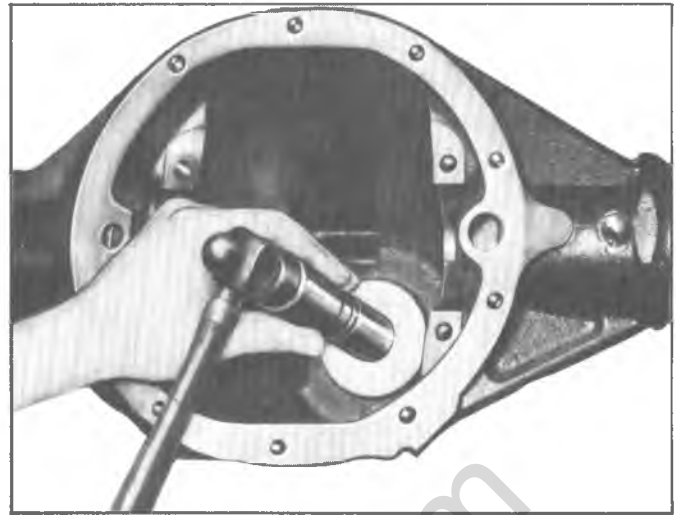

Fig. 16A—Installing Pinion Rear Bearing Cup
6. Install the rear cup, with the large end against the bore shoulder, using Installer J-8608 as shown in figure 16A.